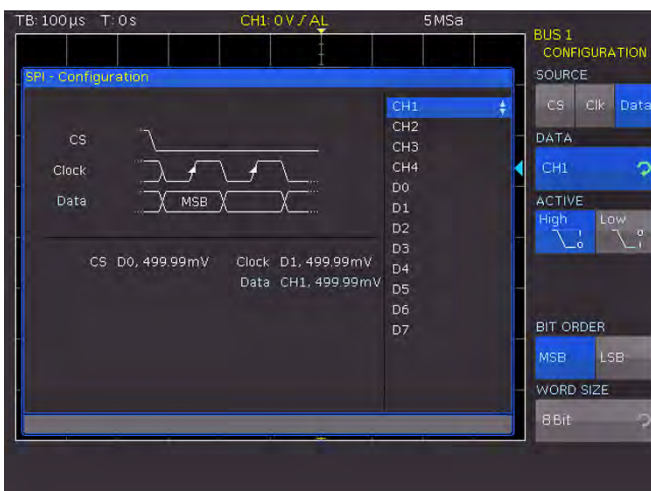

Fig. 13.13: Menu for the definition of a SPI bus
Use the top soft menu key **SOURCE** to select the respective channel for chip select (CS), clock (Clk) and data. Select the respective soft menu key CS, Clk or Data (key will be highlighted in blue) and then use the soft menu key DATA and the universal knob to select the respective source channel. For the 2-wire SPI, select the possible **TIME OUT** instead of a chip select source. During the time out, data and clock line are at Low. When the time out has been reached, a new frame begins. If the time intervals between the data packets are shorter than the time out, these packets belong to the same frame. You can select the dead time via universal knob or via numeric input (KEYPAD button). A small window provides information about the current settings (see fig. 13.13).